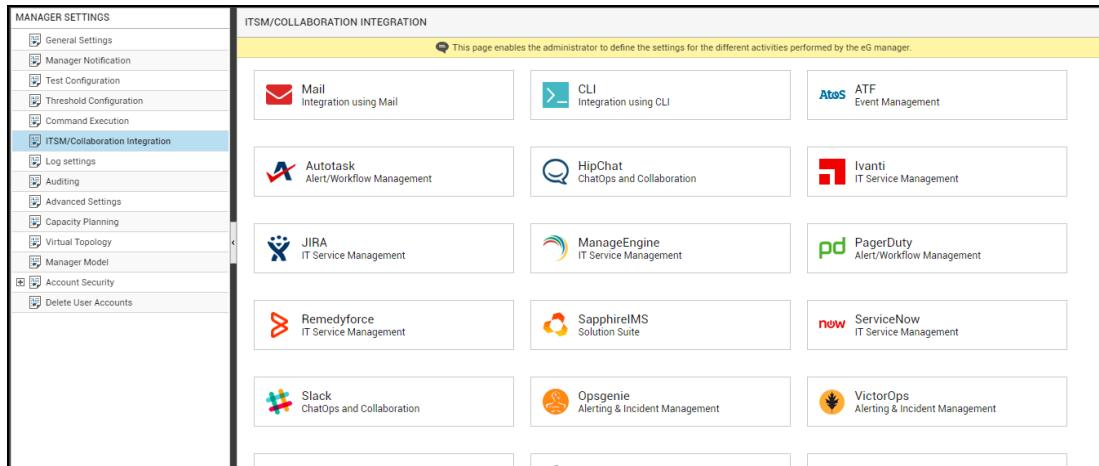
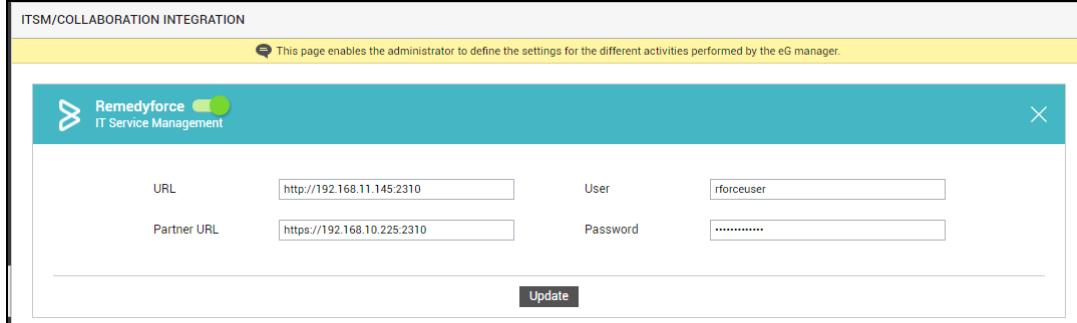

Figure 5.7: Viewing the ITSM/Collaboration tool options
Figure 5.8: Configuring integration with Remedyforce
3. Figure 5.7 will then appear. From the **MANAGER SETTINGS** tree in the left panel of Figure 5.7, select the **ITSM/Collaboration Integration** node. The third-party ITSM/Collaboration tools that eG Enterprise can integrate with will be listed in the right panel.
4. Now, click on the **Remedyforce** option in the right panel (see Figure 5.7). A **Remedyforce** section will now appear in the right panel (see Figure 5.8).
5. To enable integration with Remedyforce, first slide the **Remedyforce** slider in Figure 5.8 to the right.
6. Then, specify the following in Figure 5.8:
7. Finally, click the **Update** button in Figure 5.8.